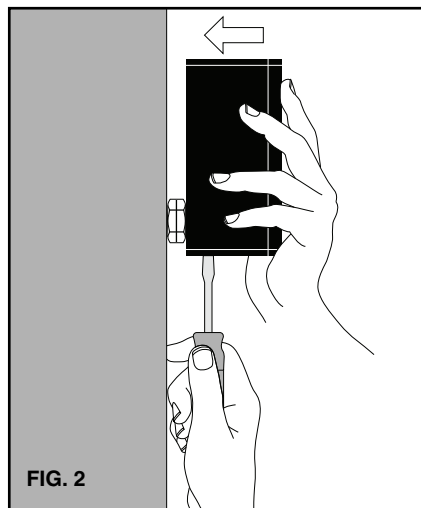

FIG. 2
STEP 2 Place control on the well. While holding box against well nut, tighten well clamp screw. (Fig. 2)